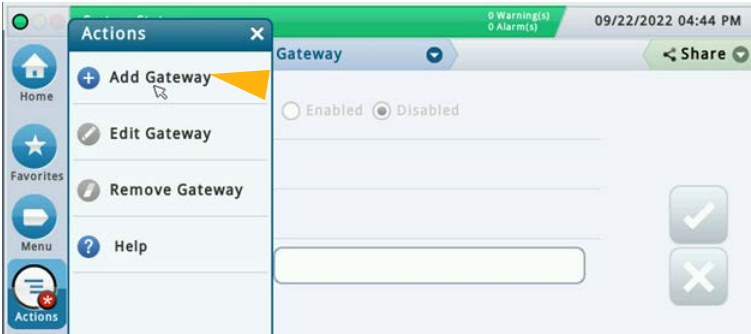

Figure 16. Add Gateway Action Popup
3. Select **Add Gateway** from the popup window (see Figure 16).
4. Select Edit Gateway from the popup window (see Figure 16).